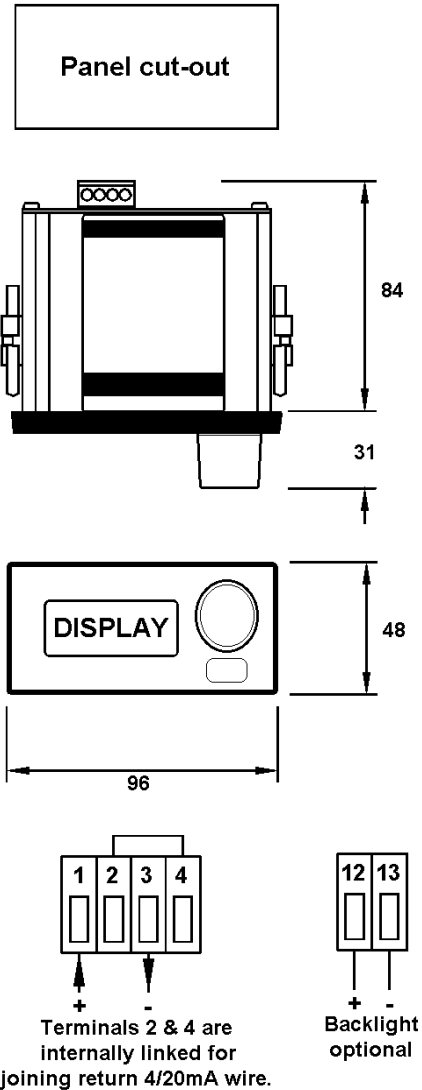

Fig 6 BA405C Dimensions
Fig 6 shows the enclosure dimensions and the recommended panel cut-out sizes.
- c. Connect the panel wiring to the rear terminal block as shown in Fig 6. To simplify installation, the terminals are removable so that the panel wiring can be completed before the instrument is installed.